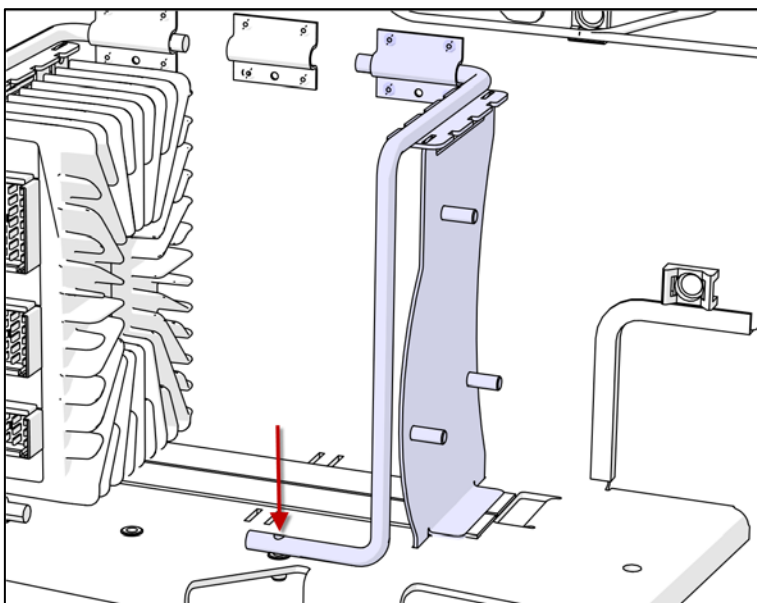

FIGURE 13:BRACKET ASSEMBLY
- 2- Unplug wire Sw83.Ign at A36JB pin2, (Figure 13) cut the terminal and splice harness wire named R21A.B and connect to relay R21 stud B (16AWG GXL white with butt splice). Tighten to maximum **13N-m (115 lb-in)**.
- 3- Unplug wire A36JA.17 at A36JA pin17 (Figure 13) and seal with double wall shrink tubing.
- 8- Connect harness wire **Sw83.Ign shorter**, (18 AWG TXL white) with *terminal* to A36JB pin2. (Figure 13)
- 9- Connect harness wire **A36JA:17** to A36JA pin 17 (18AWG orange). (Figure 13)
- 10- Connect harness wire **A36JA:18** to A36JA pin 18 (18AWG orange). (Figure 13)
- 11- Connect harness wire **A36JA:10** to A36JA pin 10 (18AWG orange). (Figure 13)